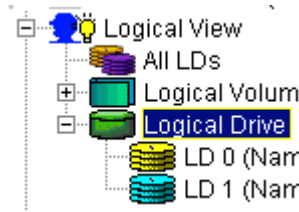

Figure 8-30: List of LDs
Step 1. Select the “**Logical Drive**” icon from the Logical View navigation panel shown in *Figure 8-1*. As shown in *Figure 8-30*, all the LDs that have been created will appear below the “Logical Drive” icon.
Step 2. From the list shown in *Figure 8-30*, select the degraded LD that you wish to rebuild. Once this LD has been selected a “*View and Edit LD Partition*” table will appear in the content panel. At the top of this window the two tabs (“*Partition*” and “*Operation*”) shown in *Figure 8-31*, will appear. Select the “*Operation*” tab.